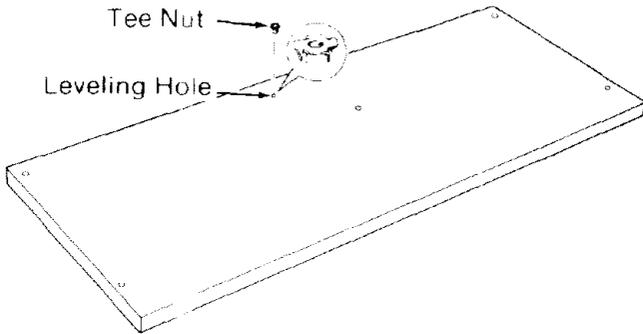

Fig. 42
2. Place a *tee nut* over the *leveling hole* and hammer it into place. (Figure 42)